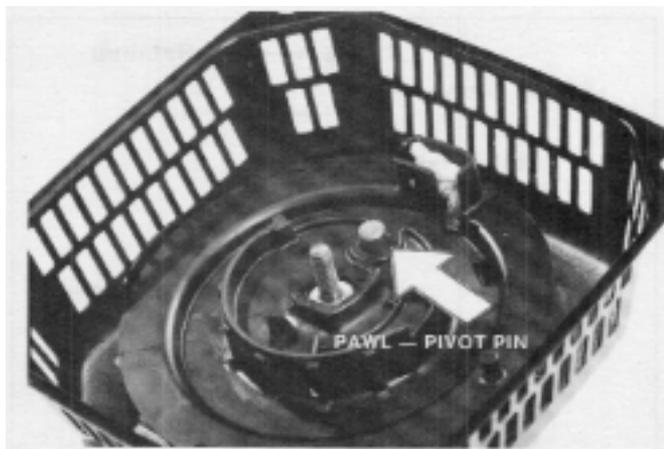

Figure 3-35
- The starter pawl pivots on the pin shown in Fig. 3-35. Remove the pin.
1. Install the pawl-pivot pin. See Fig. 3-35.